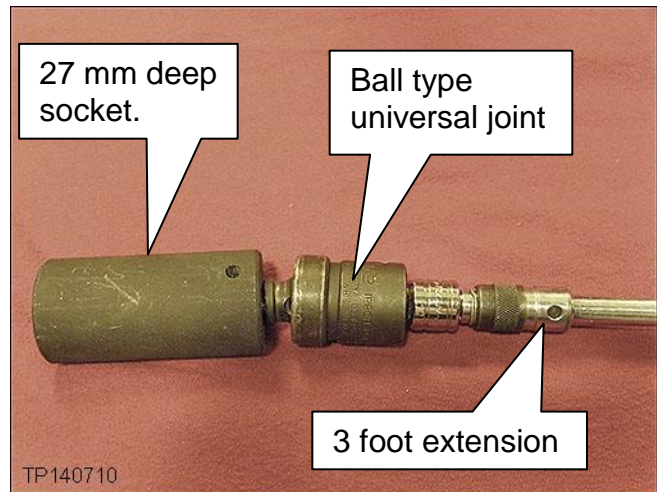

Figure 10
14. Prepare a 27 mm deep socket as shown in Figure 10.